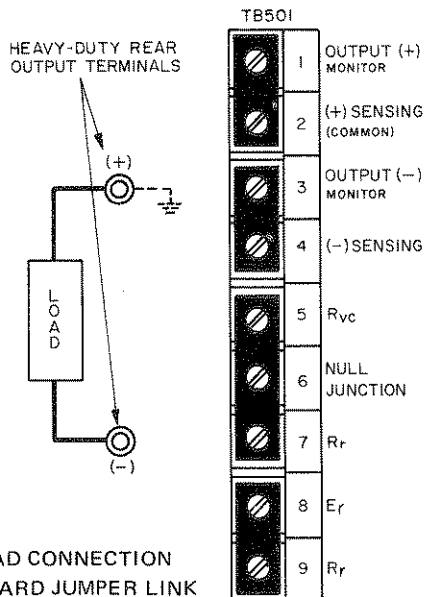
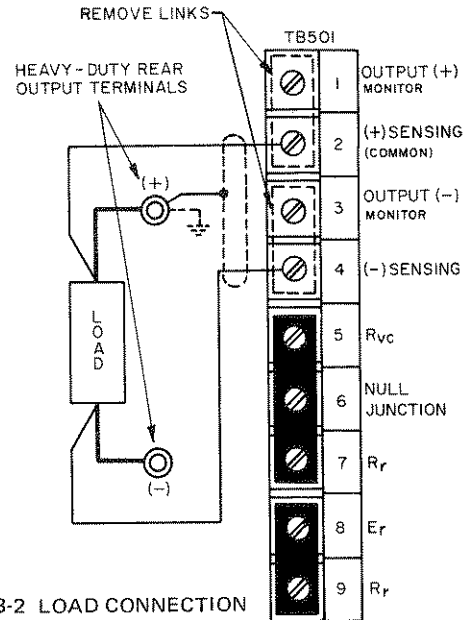

FIG.3-1 LOAD CONNECTION AND STANDARD JUMPER LINK CONNECTIONS WITHOUT ERROR SENSING
FIG. 3-2 LOAD CONNECTION USING REMOTE ERROR SENSING
- 3-2 GENERAL. The Power Supply is shipped from the factory with five (5) removable jumper links in place at the rear barrier strip (TB501) as shown in FIG. 3-1. THESE LINKS MUST BE IN PLACE AND SECURED TIGHTLY for standard local operation. Loose terminal links or wires at the barrier strip will cause malfunction of the power supply.
- 3-3 LOAD CONNECTION. The load may be connected in any of the two ways illustrated (FIG. 3-1,3-2). Load connecting wires should be as heavy as practicable, since load wire voltage drops will degrade regulation performance. Twisting of load wires will help to preserve the low output impedance of the power supply. To keep the DC voltage drop in the load connecting wires to a minimum, and to preserve the dynamic characteristics of the power supply (AC stability, output impedance and recovery time), load wires and error sensing leads should be as short and as large in diameter as practicable. Both lead pairs should preferably be tightly twisted. For minimum ripple and noise pick-up, the error sensing leads must be shielded. The shield, as well as one side of the output (preferably the positive), should be returned to the common ground point (Refer to FIG. 3-2).
- 3-5 Specified regulation performance DIRECTLY AT THE LOAD requires the use of remote error sensing. A twisted, shielded pair of wires from the sensing terminals directly to the load will compensate for load wire voltage drops up to 0.5 volt per wire (Refer to FIG. 3-2). Observe polarities: The positive sensing wire [from terminal (2)] goes to the positive load wire.